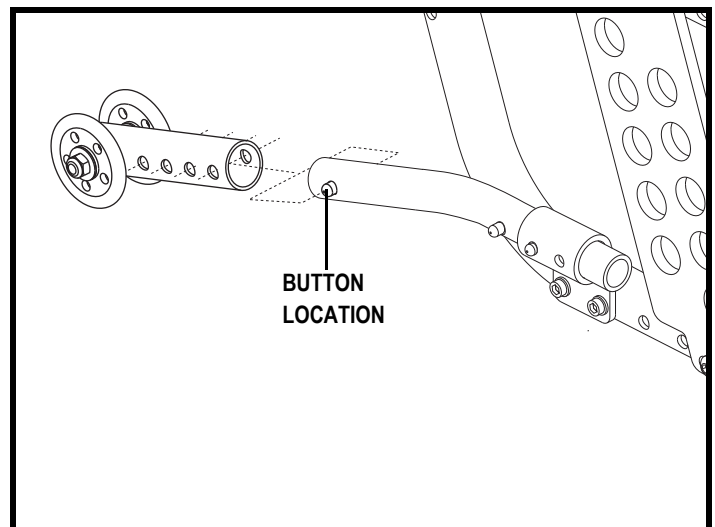

Figure 16. Anti-tip Wheel Adjustment
1. Push the button on the anti-tip wheel and move the anti-tip wheel up or down to unlock it. See figure 16.